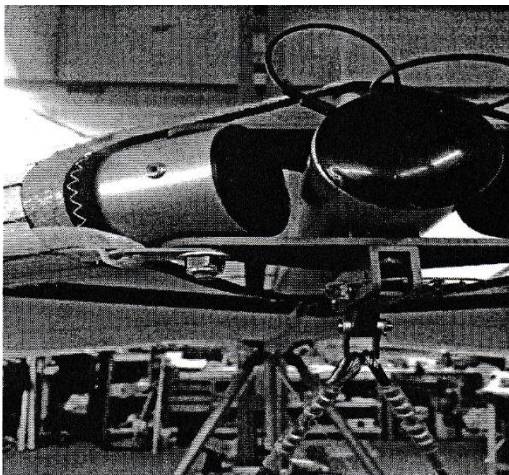

Figure 15
20. Fix the sail mount tangs at the nose part of the sail to the wing bolts. Do not over tighten the mount nuts. When the fixing nut is properly tightened, the sail mount tang rotates freely on the fixing bolt (fig.15).